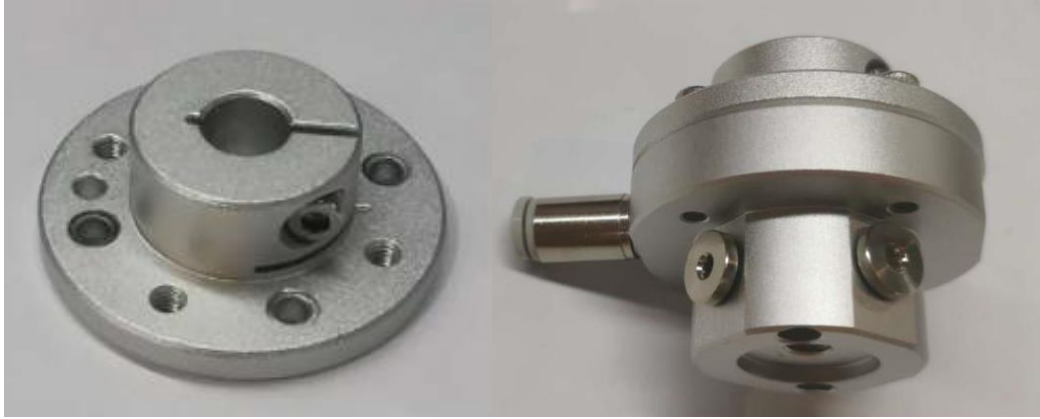

Figure 2.12 Install the end flange of MG400
Step 2 Install the end flange of MG400 (accessory of MG400) to connection block, and tighten four screws, as shown in Figure 2.12.